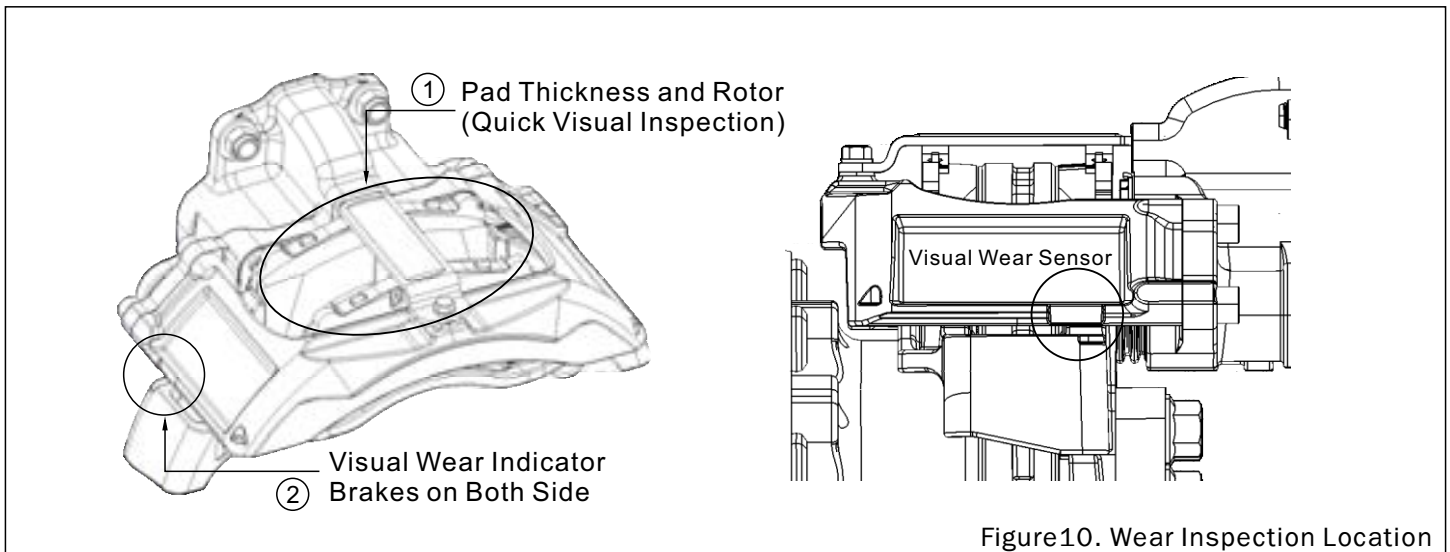
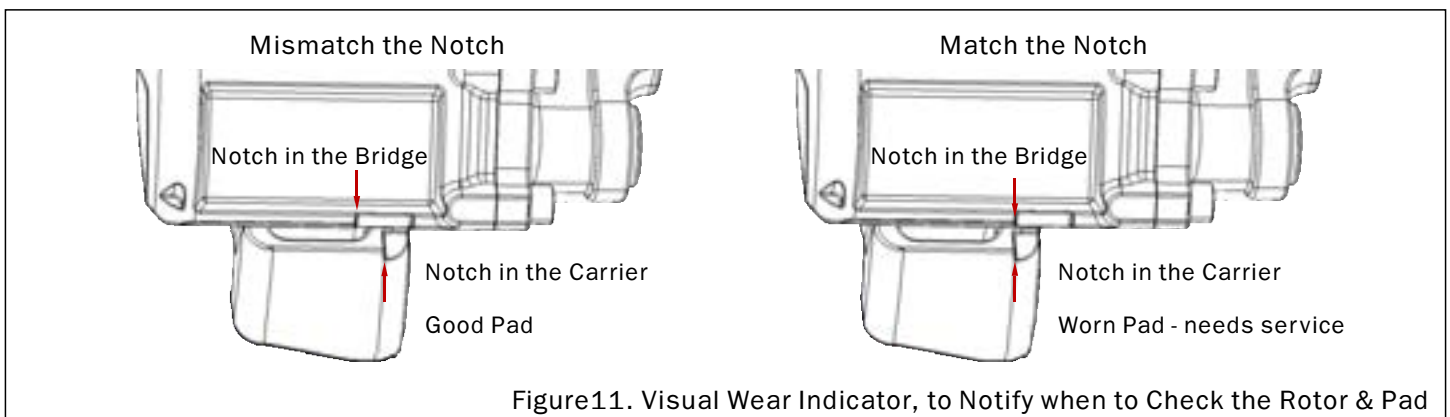

Figure10. Wear Inspection Location
Figure11. Visual Wear Indicator, to Notify when to Check the Rotor & Pad
- You can visually check the wear of the brake pads and rotor without detaching the wheel. (See Figure 10)
- ① You can position the top and rotor on top of the brake to see
- ② You can check the wear of the pad through Visual Wear Sensor. (See Figure 11)